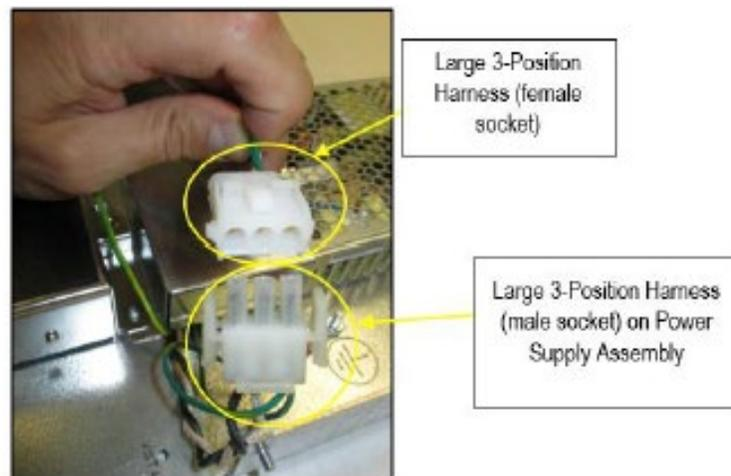

Figure 62
- 10) Remove the Large 3-Position Harness (female socket) of the A/C Wiring Assembly from the Large 3-Position Harness (male socket) pigtail that is present on the Power Supply Assembly with the Invenco Link installed. See Figure 62.